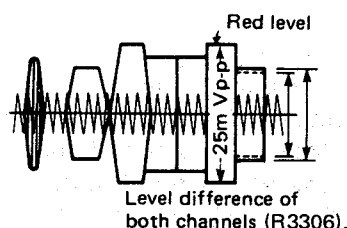

Figure 48.
- c) Adjust R3306 (record chroma control) so that the red level becomes 25m Vp-p as shown in Fig. 48.